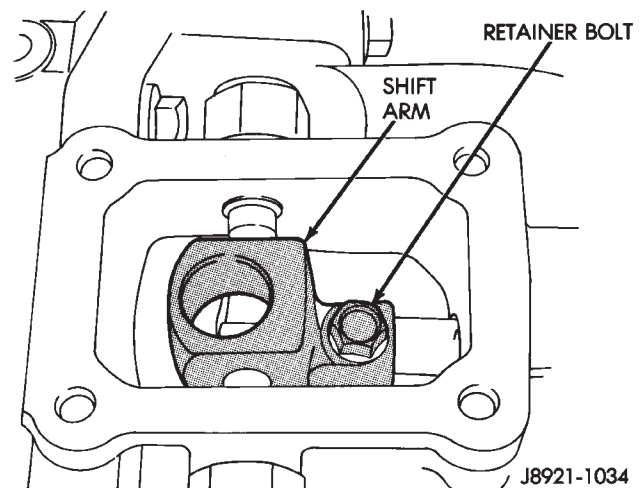

Fig. 4 Shift Arm Retainer Bolt Removal/Installation
(5) Remove shift arm retainer bolt (Fig. 4).